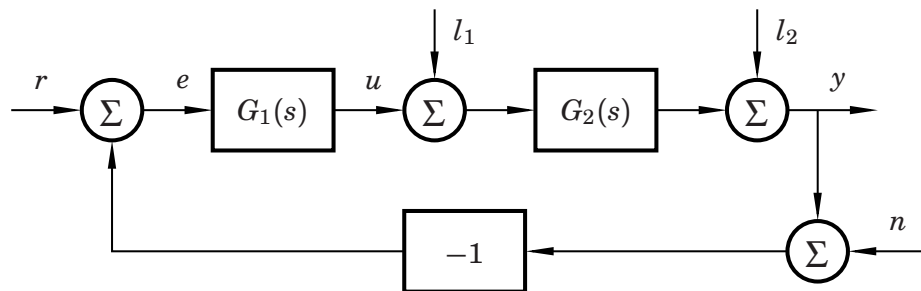

Figure 4 Block diagram in Problem 6 (and Problem 10).
6. Consider the block diagram in Figure 4, where the transfer functions are assumed to be
10. **Only for FRTN25 Process Control.** Again consider the block diagram in Figure 4, but now assume that $G_1(s)$ and $G_2(s)$ are arbitrary multivariable systems of matching dimensions. Calculate the multivariable transfer function from the reference signal vector r to the control signal vector u . (1 p)